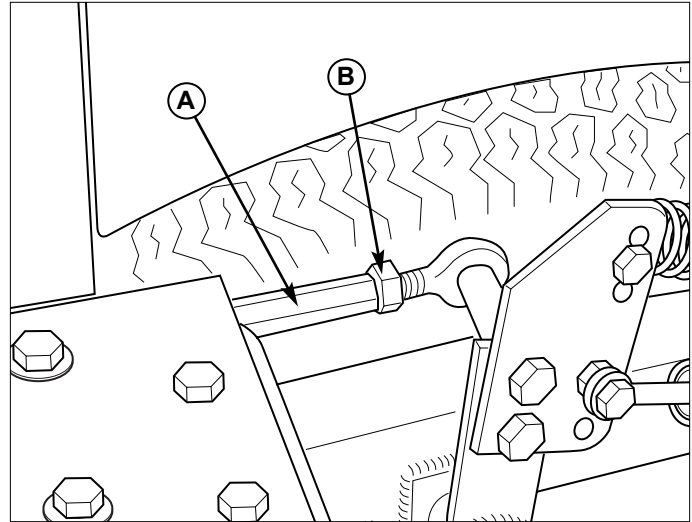

Figure 26. Neutral Adjustment
2. Loosen the jam nut (B, Figure 26) and turn the adjustment linkage (A, Figure 26) to adjust. If the machine creeps forward, turn the linkage CLOCKWISE (while standing at the rear of the machine, facing forward), if the machine creeps backward, turn the linkage COUNTER-CLOCKWISE.
3. Lock the jam nut (B) when neutral is achieved.